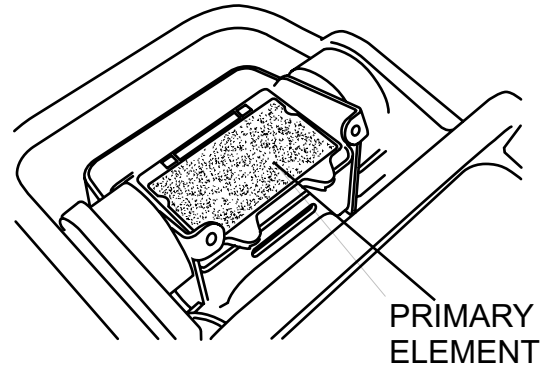

Figure 12. Air Cleaner Primary Element
- Remove the air cleaner cover. Loosen and remove the 2 screws that hold the cover to the air cleaner assembly. If the primary element (Figure 12) is dirty, wash it with gasoline or kerosene. Then dip it in engine oil (SAE10W-30) and wring the element so that 25 to 30 cc of engine oil remains on the element.